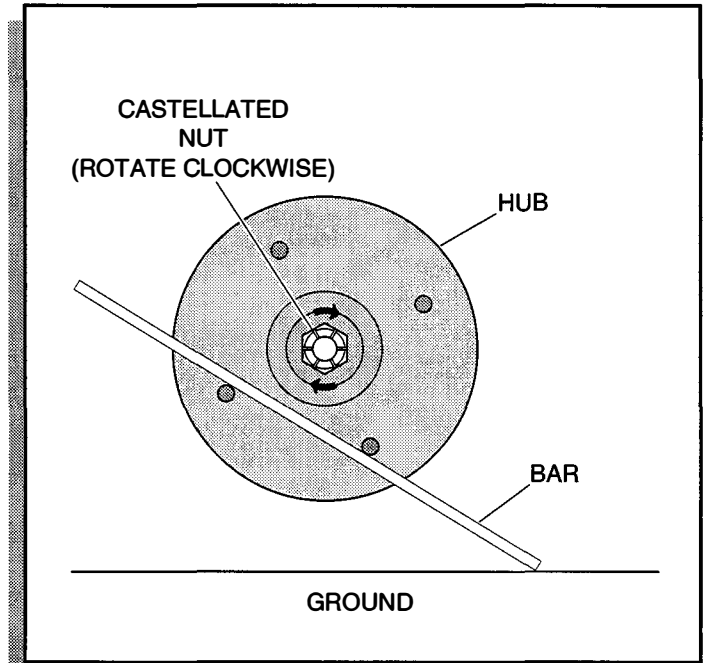

Fig. G-13 Brake Drum Installation
(See Fig. G-13 "Brake Drum Installation" on page G-38)
Clean the axle shaft to remove dirt, grease and any foreign matter. Apply a small amount of anti-seize compound to the spline. Retract the brake shoes enough to permit the brake drum to be installed. Install the thin washer (7) and slide the brake drum (6) into place. Install the remaining hardware and tighten the nut to a **minimum** of 70 ft. lbs. torque. **Do not apply** the brake when installing nut. (Ref. Fig. G-13) **Continue to tighten** until